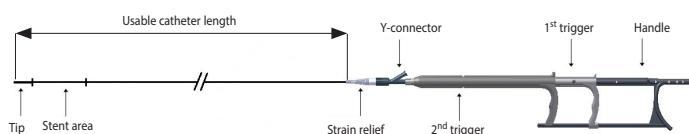

Figure 1 – Stent system
- A stent system, as shown in Figure 1, comprised of an inner tubing assembly that contains the guide wire lumen, a stent delivery sheath and a system stability sheath, which are linked together by means of a handle. The guidewire lumen terminates distally in an atrumatic delivery device catheter tip and originates proximally in a luer hub designed to accept a compatible guide wire.